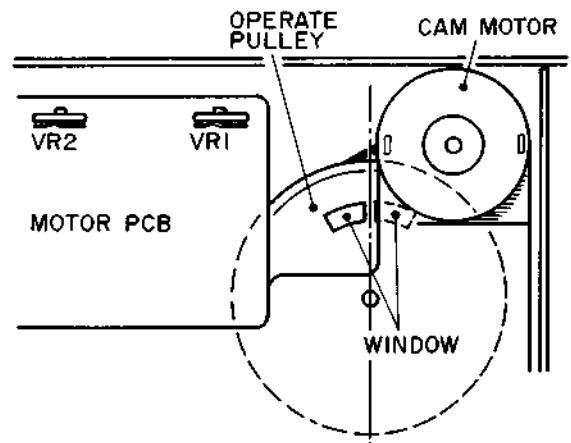

Fig. 7-2 Position of Operate Pulley in STOP Mode
- Adjust VR1 slightly so that a center line between windows of the operate pulley will face directly above during STOP Mode. (Fig. 7-2)